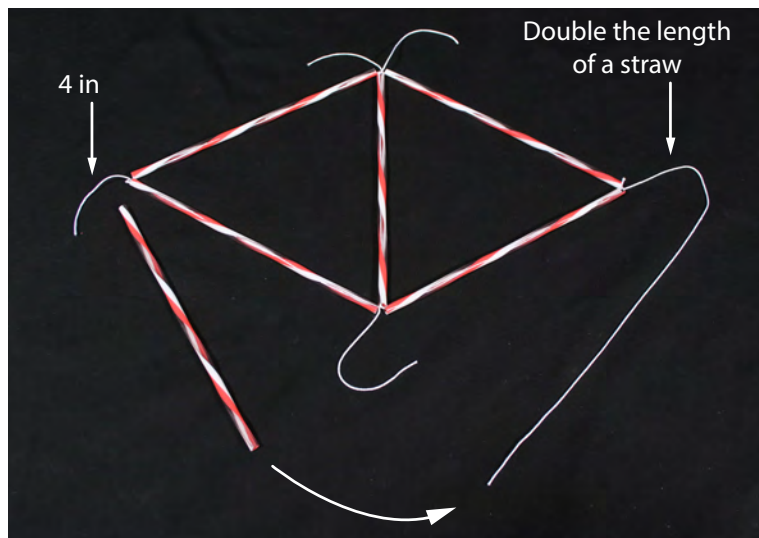

Fig. 5 Three dimensional tetrahedron construction
7. See the picture below (fig . 5 & 6). Your tetrahedron should look like this: